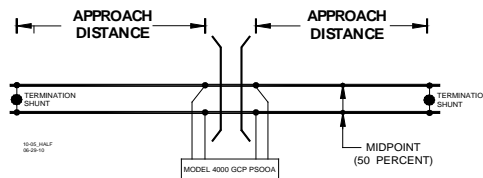

Figure 4: Midpoint Location (See Step 6 below)
Step 31	Transfer the information written in Figure 5 and Figure 6 below onto Figure 1 and Figure 2 of the Model 4000 GCP Application History Card, SIG-00-04-21 and Figure 1 and Figure 2 of the Model 4000 GCP System Cutover Test Procedure and Check Off Sheet, both of which are found at the back of the Model 4000 GCP Family Application Guidelines Manual, SIG-00-08-10. If the initial settings of the GCP were changed or equipment changes were made such that require recalibration of the GCP, Approach, and Linearization, place the updated Computed Distance and Linearization Steps data in Figure 3 and Figure 4 of the History Card.